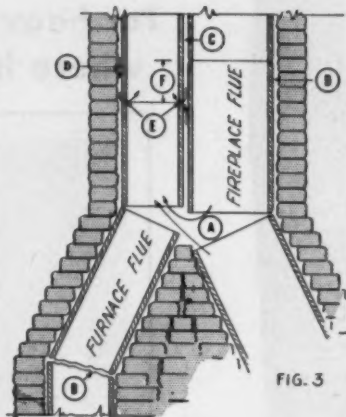

FIG. 3
In regard to the chimney, let's assume that fireclay flue linings are used. If so, what about the joints at top and bottom of each offset? It is often found that flue linings are set as indicated in Figure 3, where the joints are not mitred but are left square as shown at (A) in Figure 3. There is liable to be an opening from one flue to another at this point. All flue linings should have their ends mitred equally as indicated at (B). Space is often left between the flue lining and the brick, shown at (D) in Figure 3. This permits air to flow through the loosely fitted joints.